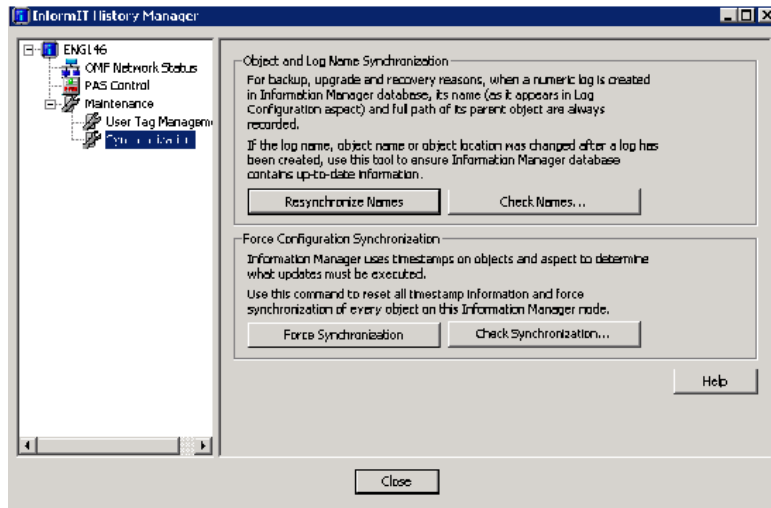

Figure 55. Inform IT History Manager
5. Expand the Maintenance tree in the Preview Area and select Synchronization. The Inform IT History Manager shown in Figure 55 appears in the Preview Area.